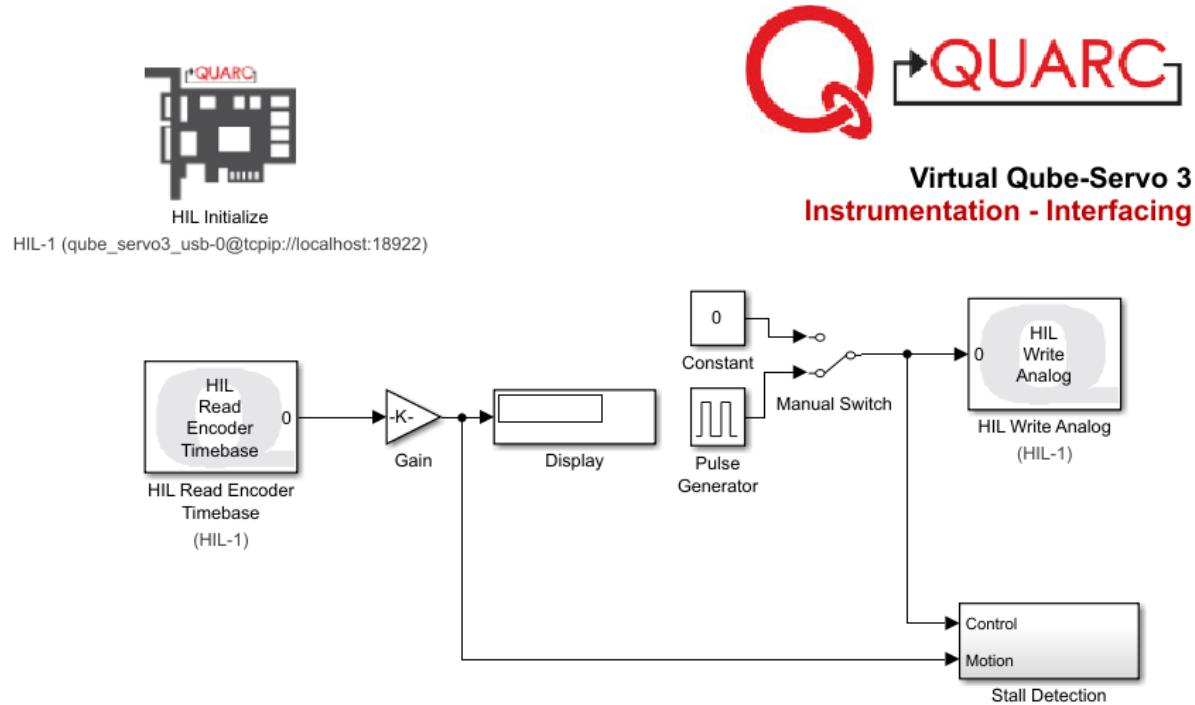
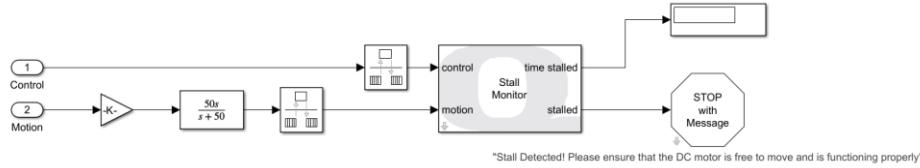

Figure 1. Simulink model used with QUARC to drive motor and read angle on Qube-Servo 3
Figure 4. Stall Detection subsystem
In this lab, we will make a **Simulink** model using **QUARC** blocks to drive the DC motor and then measure its corresponding angle – as shown in Figure 1.
14. Connect the HIL Read Encoder Timebase block as shown in figure 1, the HIL Write Analog should be missing.
17. Connect the Constant and HIL Write Analog blocks together, as shown in Figure 1. **Note:** There is a Stall Detection subsystem in Figure 1 and Figure 4. This block will monitor the applied voltage and speed of the DC motor to ensure that it does not stall. If the motor is motionless for more than 20 seconds with an applied voltage of over  $\pm 5$  V, the simulation is halted to prevent the Qube-Servo 3 from overheating and subsequent potential damage to the motor.